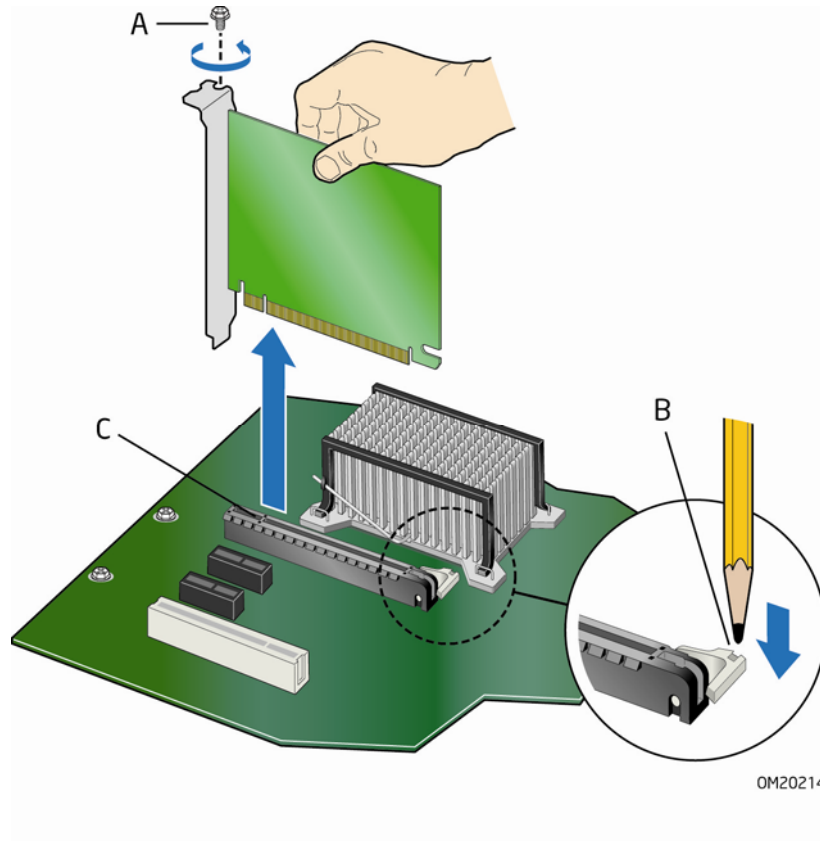

Figure 20. Removing a PCI Express x16 Card
2. Remove the screw (Figure 20, A) that secures the card's metal bracket to the chassis back panel.
3. Push the card ejector lever down using the tip of a pencil or similar tool (Figure 20, B) in the notch. This will release the card from the connector (C).